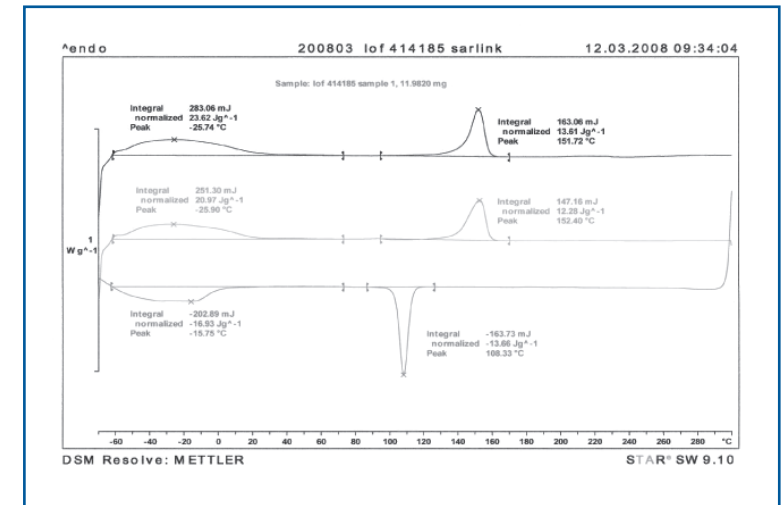

Figure 4: DSC curve of a TPV compound
A Thermo Plastic Vulcanisate (TPV) mostly consists of Polypropylene (PP) and EPDM. Besides the EPDM part, the PP is also visible (Tm=+/-152°C and Tc=+/- 108°C) in the DSC curves. An example of a DSC curve of a TPV compound is shown in Figure 4.